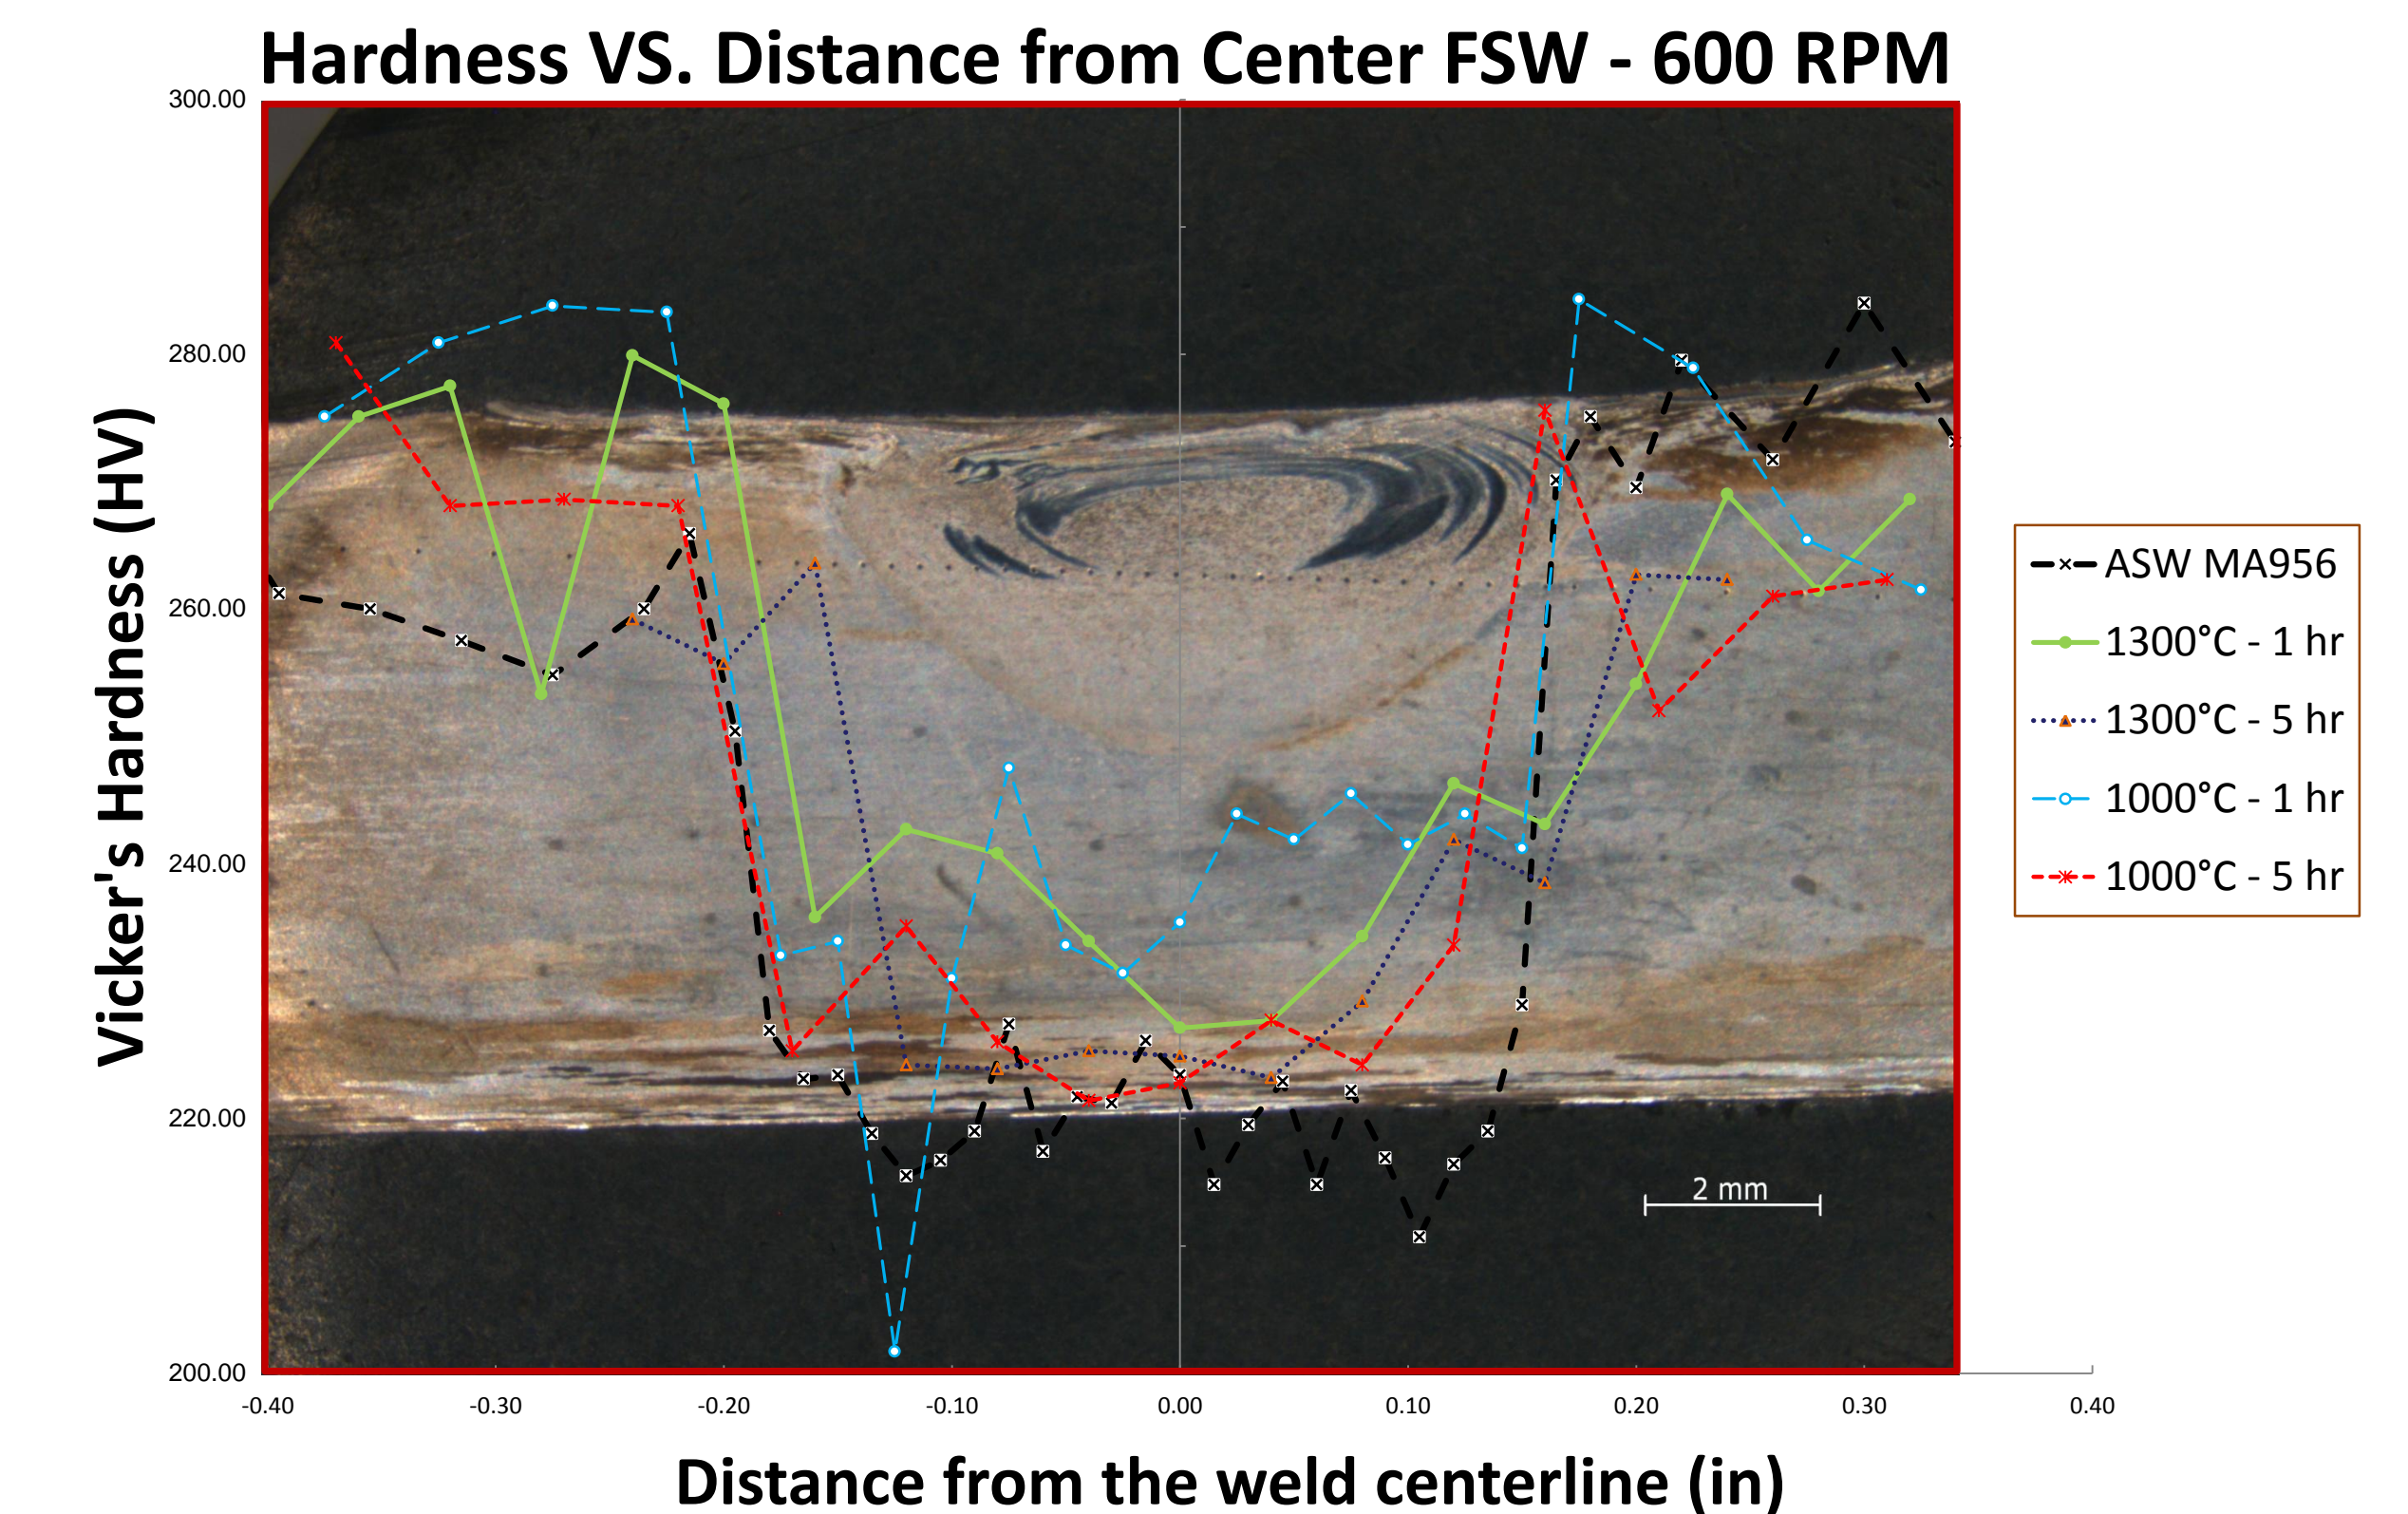

Figure 4 – FSW region of MA956 at 6.25X magnification showing Vicker's hardness values across the nugget.
- (Figure 4) At different PWHT temperatures and times, the hardness values have very similar hardness results.